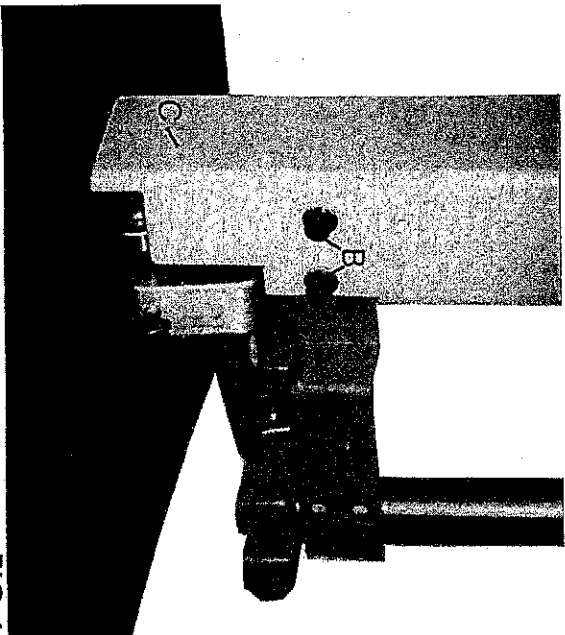

FIG 11
3. Check that scale indicates correct sawblade width. If scale is incorrect, tension sawblade to maximum tension by handwheel "A", FIG.11.
2. Loosen caphead screws "B", FIG. 11, and remove sawguard "C".
6. Refit sawguard "C", FIG. 11 and secure with caphead "B".